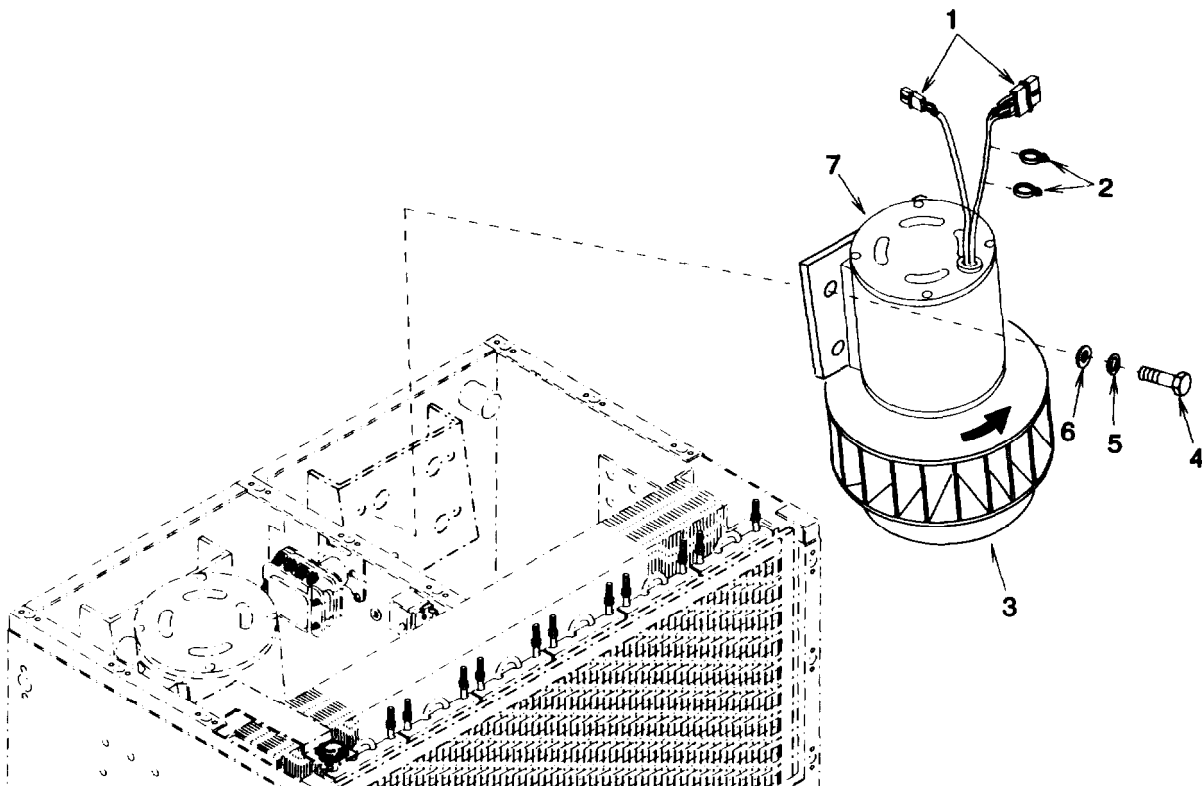

Figure 3-51. Evaporator Fan and Motor
(1) Tag and disconnect fan motor cable connectors (1) Figure 3-51.
- (4) Observe fan (3) Figure 3-51 rotation noted during removal and install motor fan assembly (7), four screws (4), new lock washers (5) and flat washers (6).
- (7) Connect motor connectors (1) Figure 3-51 using tags and wiring diagram Figure 3-5. Remove tags.
- (8) Secure wires with new tiedown straps (2) as necessary.